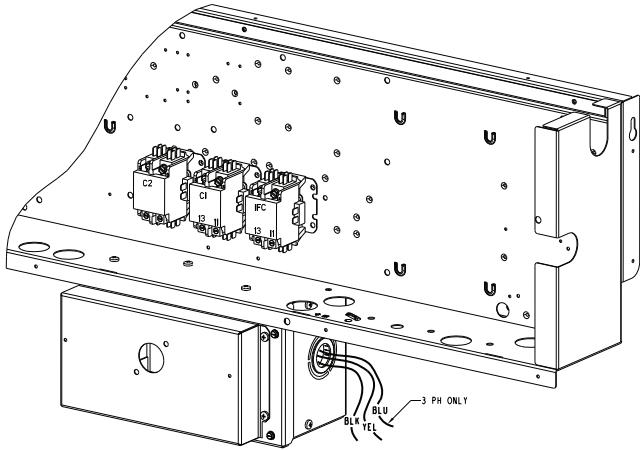

Fig. 23 — NFD Enclosure Location
2. Remove (3) hex screws on the NFD enclosure — (2) on the face of the cover and (1) on the left side cover. See Fig. 23.